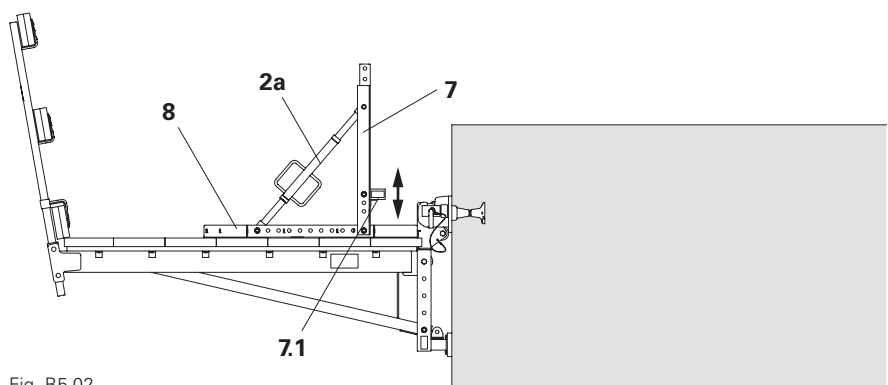

Fig. B5.02
1. Fasten Formwork Post VGK 70 (7) to Formwork Post VGK 120 (8) with bolts
2. Fix Kicker AV 82 (2a) in the rearmost hole in Formwork Support VGK 120 (8) and in the top hole in Formwork Post VGK 70 (7) with bolts in each case.
3. Insert beam support (7.1) in the corresponding position. (Fig. B5.02)